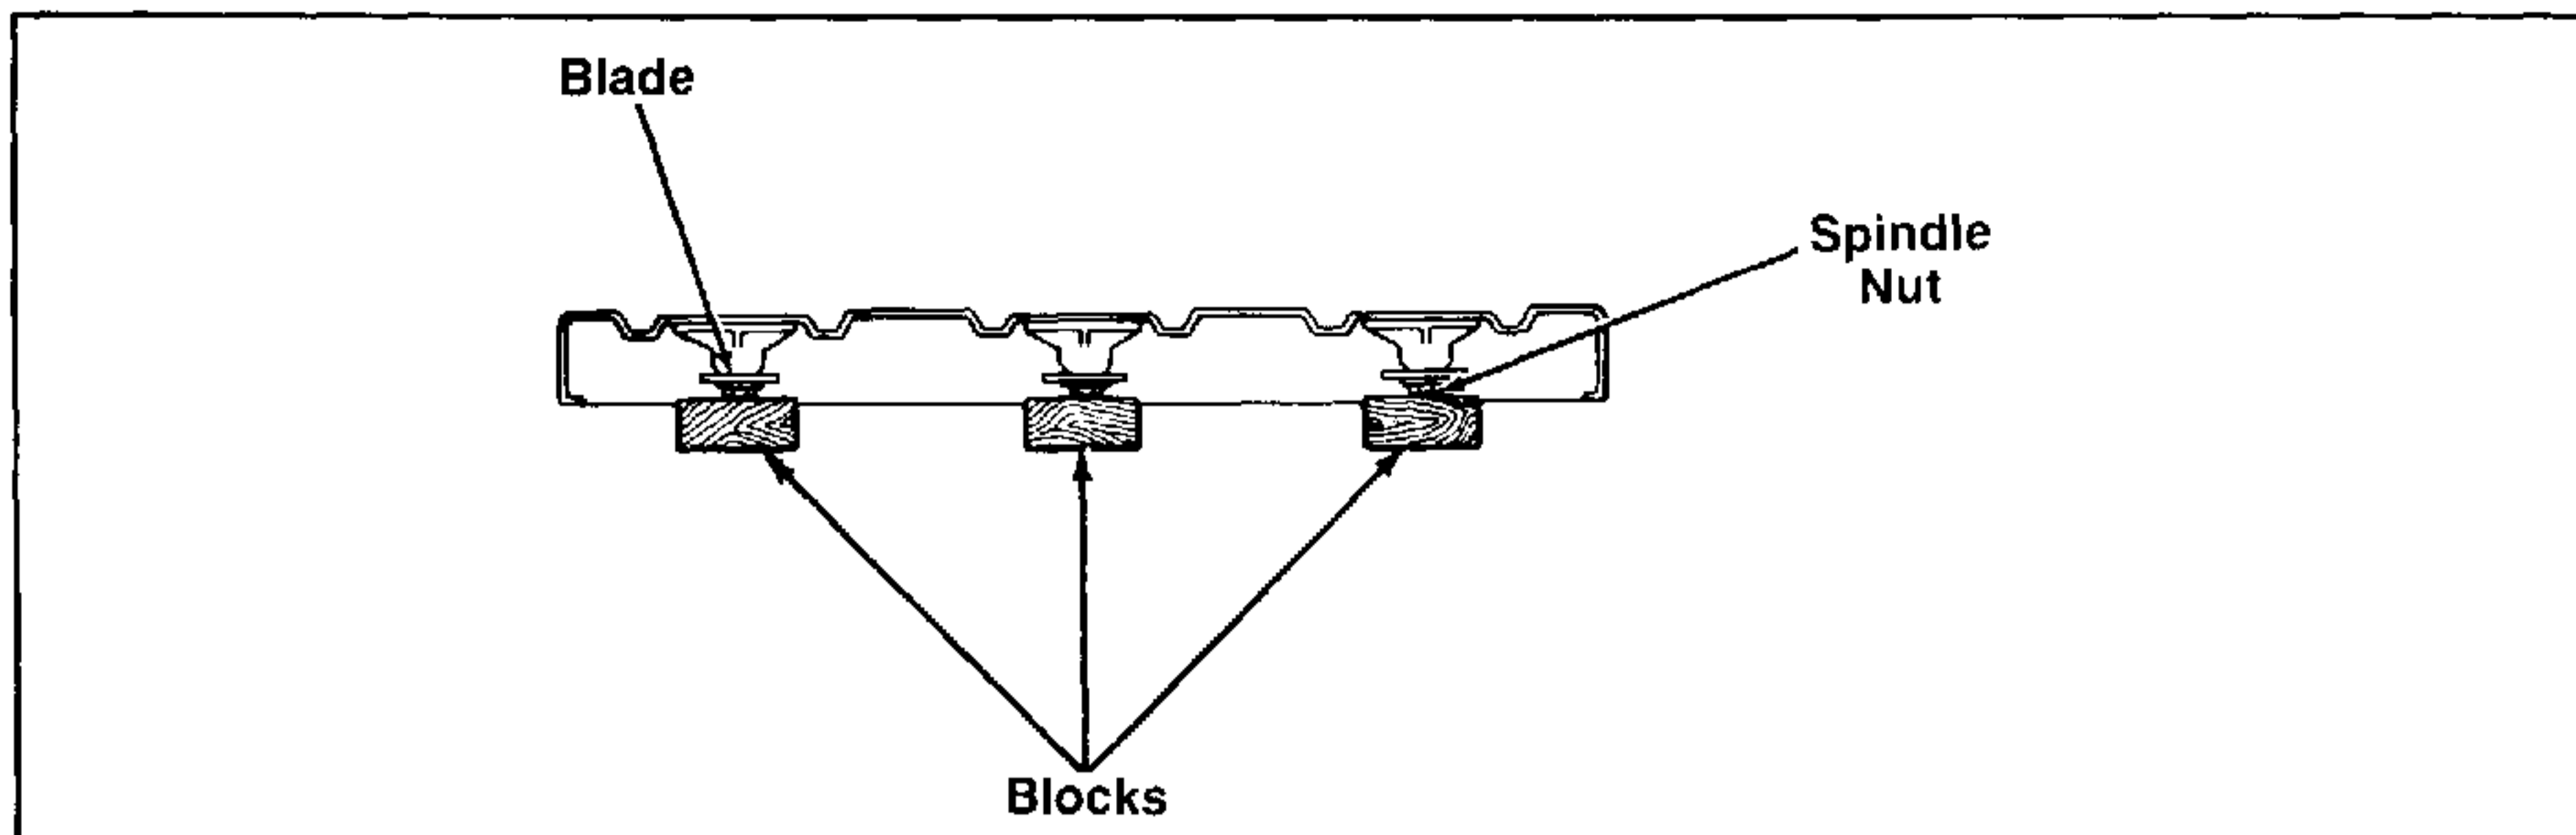

FIGURE 11.
5. Refer to figure 11. Lift the right end of the deck, and set the outside spindle nut on the face of a six inch long 2" x 4" wooden block (obtained from a wooden building stud). Repeat this step for the left and center spindles.